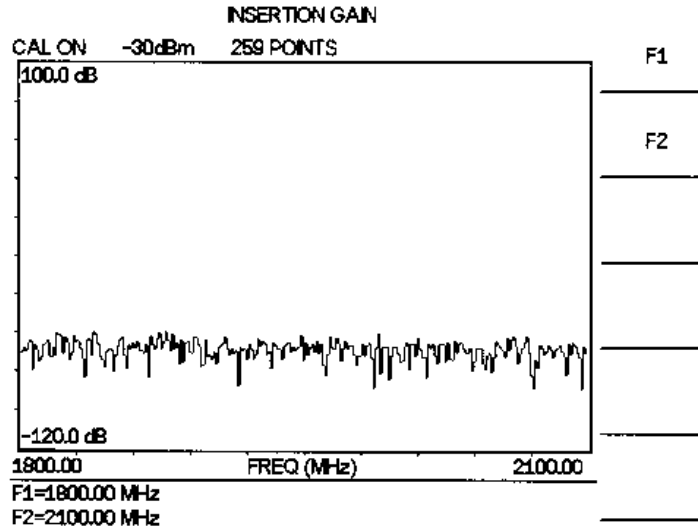

Figure 4-19. Measurement Display Before Amplifier Connection
Step 12. Disconnect the 7/16(f) adapter. The resulting display should be similar to Figure 4-19